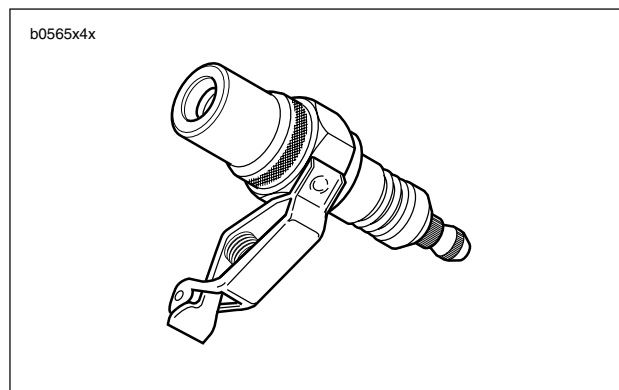

Figure 4-19. Spark Plug Tester (Part No. HD-26792)
- b. See Figure 4-19. Attach cable to SPARK PLUG TESTER (Part No. HD-26792). Clip tester to cylinder head bolt.